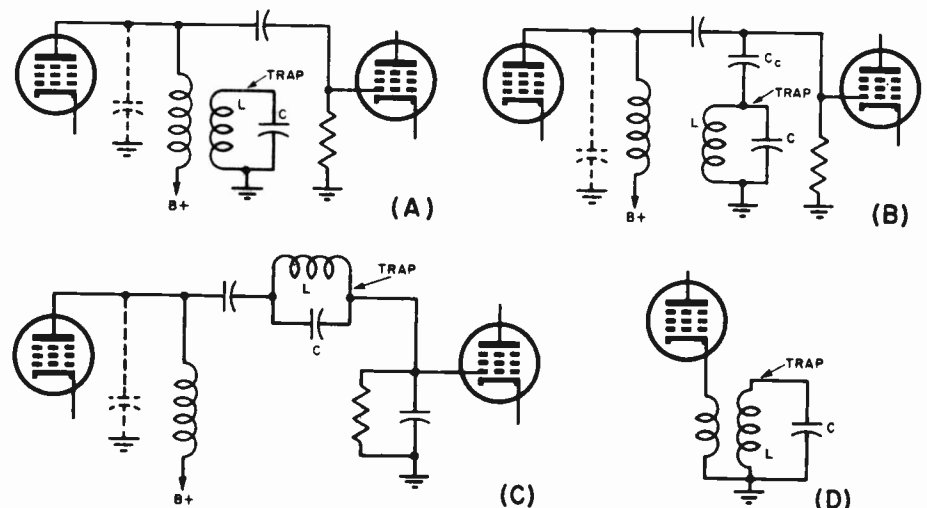

Fig. 3. Various trap circuits. (A) Inductively-coupled trap. (B) Capacitively-coupled trap. (C) Series-coupled trap. (D) Cathode trap.
is useless. Trap circuit capacitors must be of a low-loss type in order to obtain high Q's. For convenience, we will assume that each of the diagrams of Fig. 3 represents an associated sound traps, although trap circuits do not depend upon the frequency to which the trap is tuned.
The coil of an inductively-coupled trap, as in Fig. 3(A), is placed near the i-f interstage coil with which it is to work. If a 41.25-mc associated sound signal is present in the i-f interstage coil, it will induce a signal in the trap circuit. This will result in a relatively large circulating current in the trap because of its high Q. The circulating current produces a magnetic field that acts to oppose the 41.25-mc signal in the i-f interstage coil, thereby considerably reducing the strength of the associated sound signal. (The amplitude of this signal cannot be reduced to zero, of course, because then there will be no magnetic field in the trap circuit).
A second type of circuit, the capacitively-coupled trap, is shown in Fig. 3(B). Although the operation of this circuit is different than that of the inductively-coupled trap, the end result is the same. At 41.25 mc, for example, coupling capacitor C_C in combination with L and C, will produce a low-impedance series-resonant path to ground. This will "short-circuit" the 41.25-mc signal that is present in the i-f interstage coil. The capacitively-coupled trap also produces a peak to the left of 41.25 mc, but in this case it is caused by a high-impedance parallel-resonant condition between the i-f interstage coil and the trap circuit.
The series-coupled trap of Fig. 3(C) acts by introducing a high-impedance parallel-resonant circuit in series with the signal path. This trap is also characterized by a peak to the left of 41.25 mc. The action of the trap is controlled by the size of C. When C is too small, the picture frequencies will be affected. When C is too large, the size of L becomes correspondingly small and it becomes difficult to build a high-Q trap coil. C is generally over 100 μf in value.
The fourth circuit, the cathode trap, is shown in Fig. 3(D). The action of this trap is based upon the reduced gain that results when an impedance is introduced into the cathode circuit of a tube. At 41.25 mc the trap coil reflects a high impedance into the cathode circuit, while at other frequencies it has very little effect. The cathode coil by itself is a small inductance, and does not